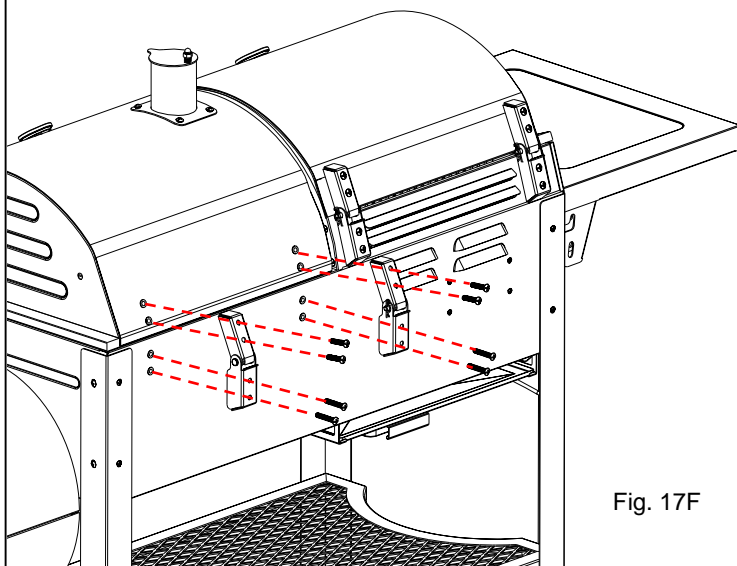

Fig. 17F
Refer to Fig. 17F, attach Charcoal Grill Cabinet and Lid with Hinge Assemblies using (8) M6*35 Bolts as shown.